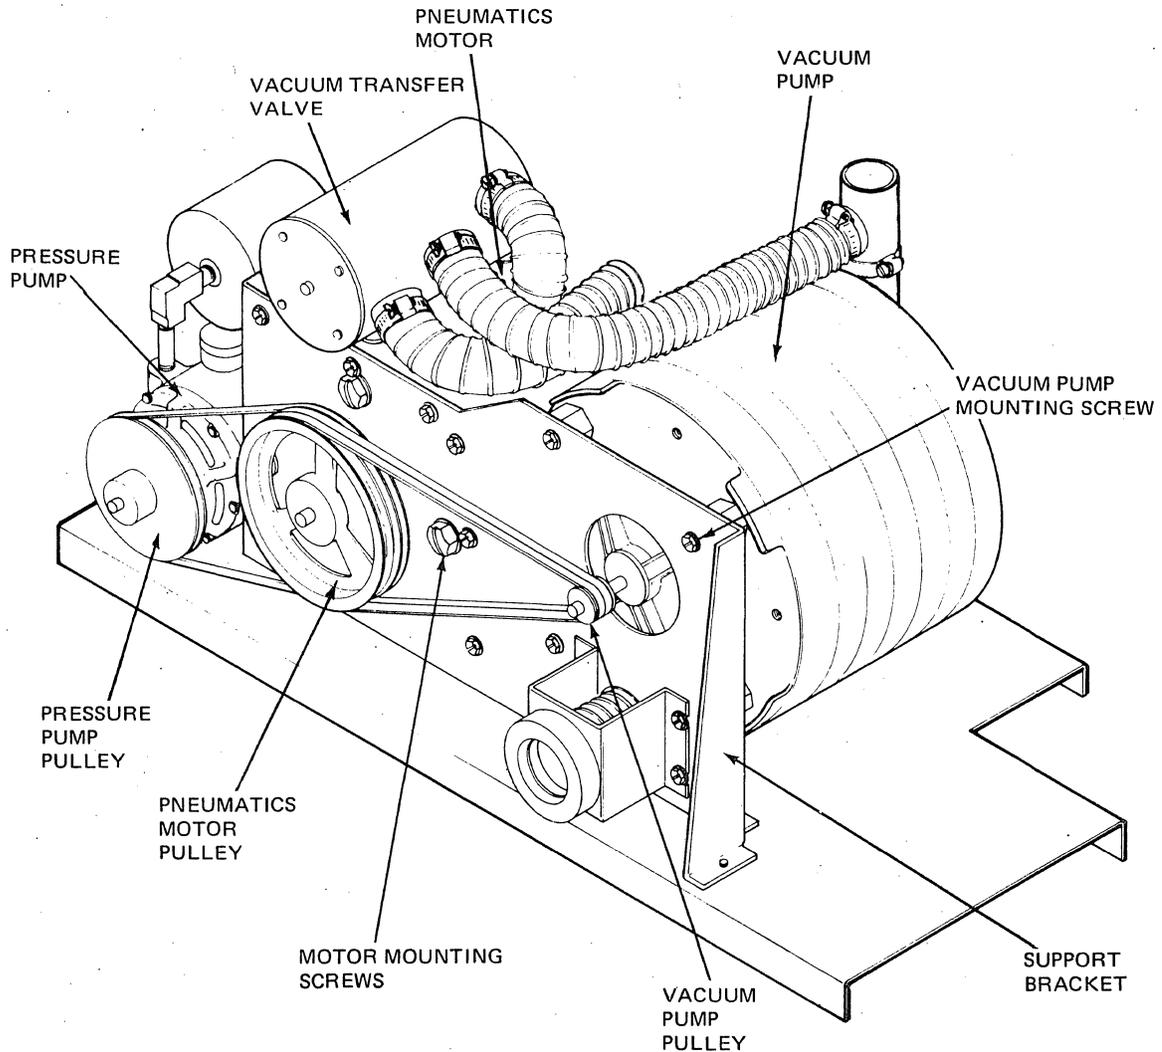

Figure 4-30. Pneumatic Supply Assembly
1. Loosen the two cap screws on each window guide (see Figure 4-30 for the cap screws location).
1. Loosen the vacuum pump mounting screws (4) and slide the pump toward the pneumatic motor (see Figure 4-30).
2. Loosen the pressure pump mounting nuts (4) and slide the pressure pump assembly toward the pneumatics motor (see Figure 4-30).